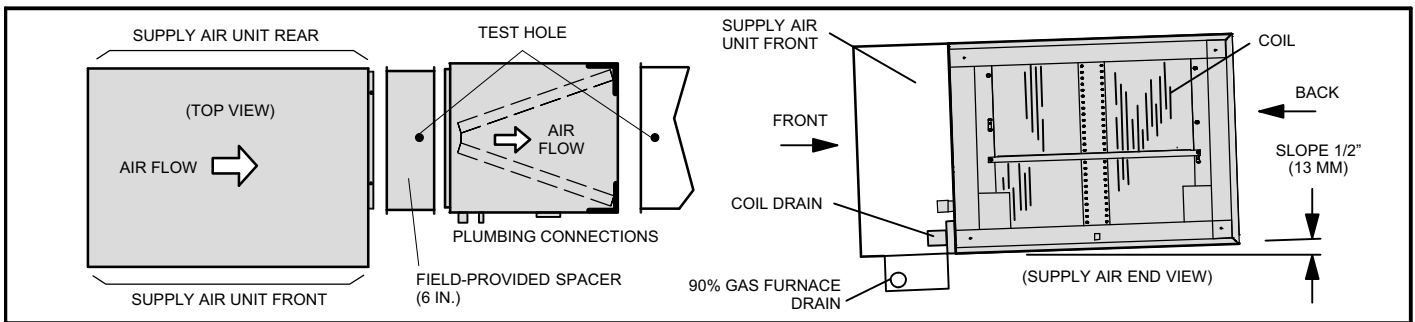

Figure 5. Right-Hand Air Discharge with Spacer
- 2. Right-Hand Air Discharge with Field-Provided Spacer** — The coil must have a 1/2" slope from the rear of the cabinet to the drain. Position the coil in the left-to-right configuration on the service access side of the furnace. Insert a field-provided spacer between the furnace and the coil. Use field-provided screws to secure the coil casing, spacer and the furnace together. The spacer should be long enough to allow room for proper installation (approximately 6 inches minimum). See figure 5.